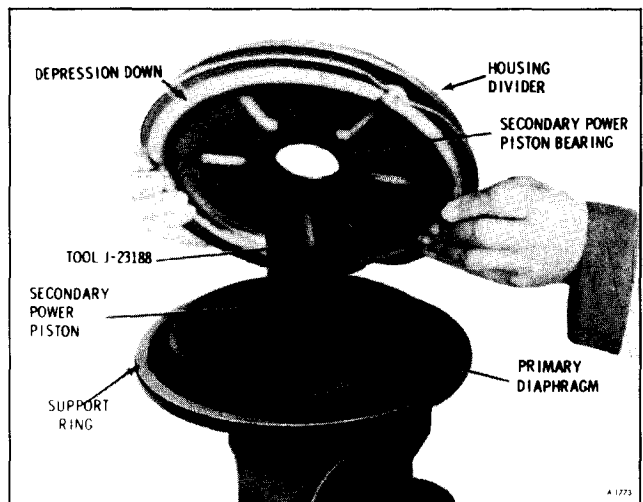

Figure 49—Installing Housing Divider
27. Position Tool J-23188, on the threaded end of the secondary power piston. (figure 49)